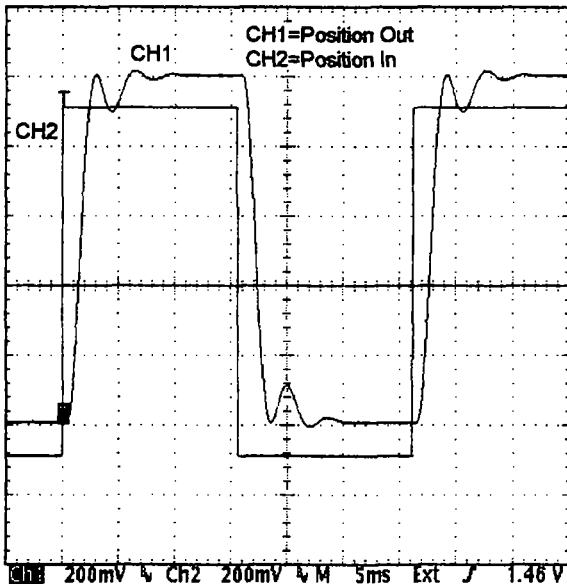

Figure 2.
8. Turn R28 CW until the first overshoot is minimized, i.e. at the same amplitude as the settled position. See Figure 2.